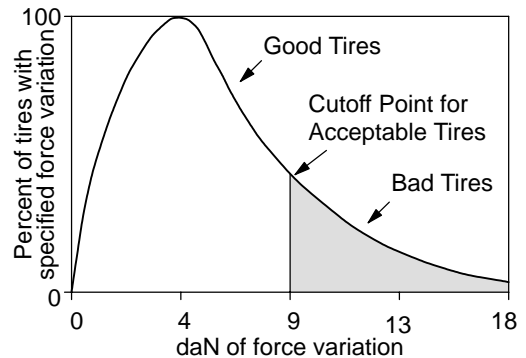

Figure 3-21 Bivariate Normal Distribution Curve
- Force variation exhibits a bivariate normal distribution curve, bounded by zero. See Figure 3-21.